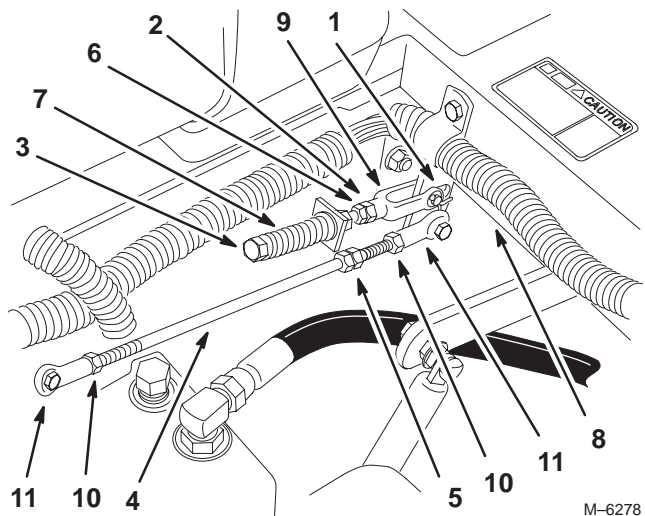

Figure 54
5. Move the lever to the neutral position but **not locked** (Fig. 54).
6. Pull lever back until the clevis pin (on arm below pivot shaft) contacts the end of the slot (just beginning to put pressure on the spring) (Fig. 54).
8. If adjustment is needed, loosen the nut and jam nut against the yoke (Fig. 54).
10. Tighten the nut and jam nut (Fig. 54).
1. Loosen the locknuts at the ball joints on pump control rod (Fig. 54).
3. Adjust the pump rod length by rotating double nuts on rod, in the appropriate direction, until wheel is still or slightly creeps in reverse (Fig. 54).
6. Tighten the locknuts at the ball joints (Fig. 54).